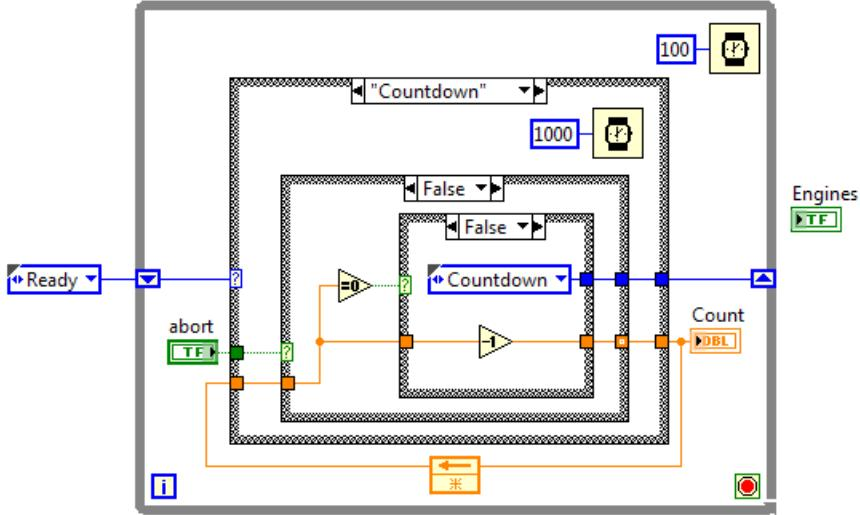

FIGURE E.10 Wiring the Countdown state to check if we have counted all the way down.
42. Set the innermost Case Structure to show the False case and wire it to look like Fig. E.10. Now, instead of reading the value of the Launch button, we are checking to see if the count has reached zero. If it has not, then we decrement the counter by 1 and return to the Countdown state. Note the new timer which makes the state last for a full second (so that we are counting down by seconds, as is traditional when launching rockets).